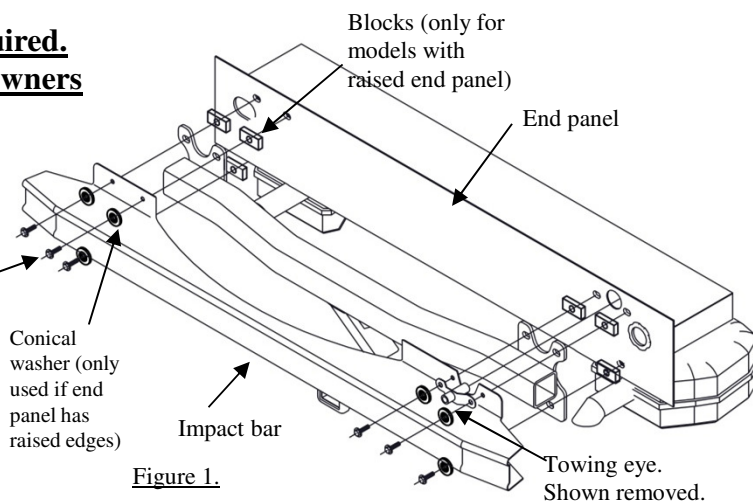

Figure 1.
- Re-install towing eye (sandwich hitch, impact bar and towing eye). Hand tighten (6) bolts. See Figure 1 (Towing eye shown removed for clarity)
- Replace inside appearance panel at rear of tail gate (2) bolts.